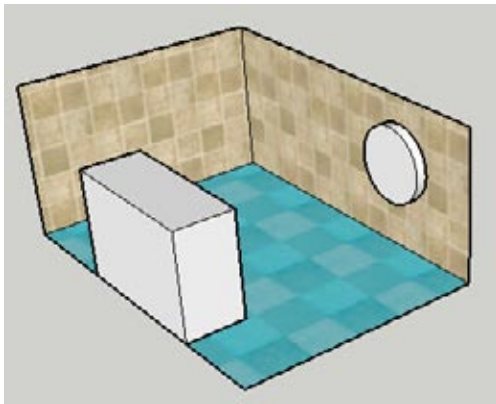

Figure 6-31
6. Move the bureau to another part of the room, and the walls and floor remain intact (Figure 6-31).